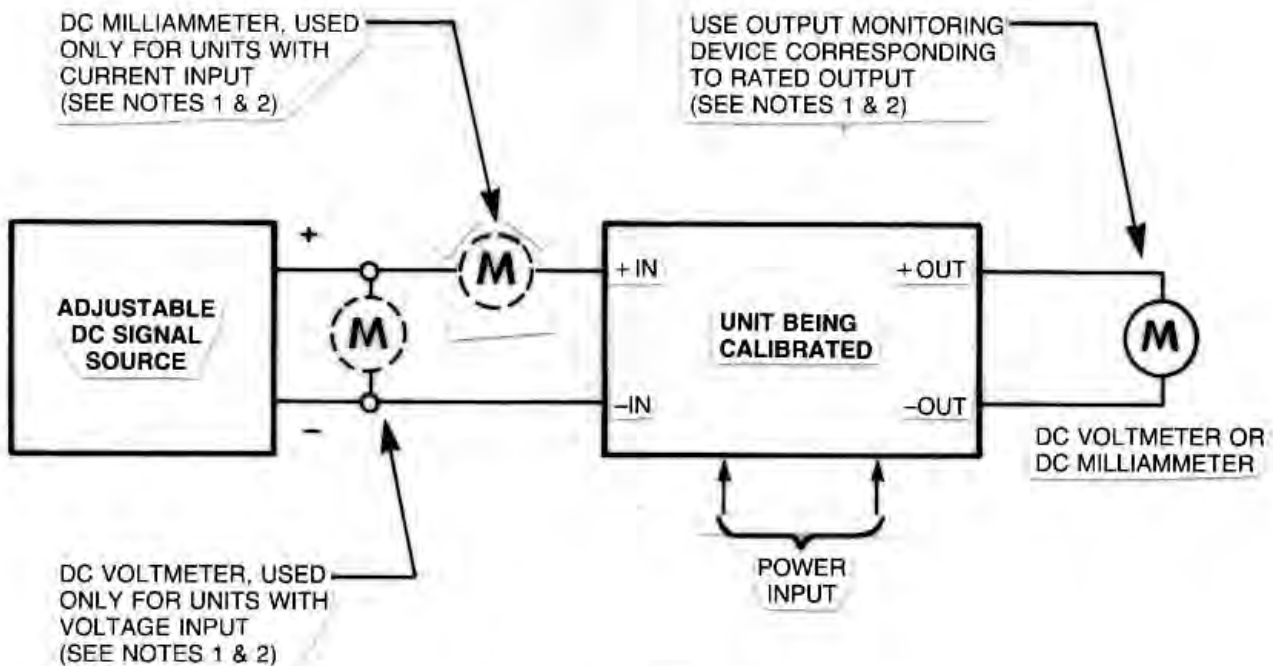

Figure 2-1
- a. Connect unit and test equipment as shown in Figure 2-1.